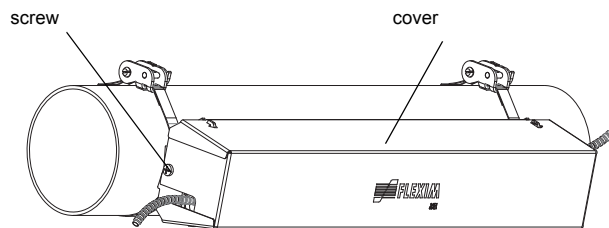

Fig. 9.47: Variofix C with transducer on the pipe
- Put the cover on the rail (see Fig. 9.47).